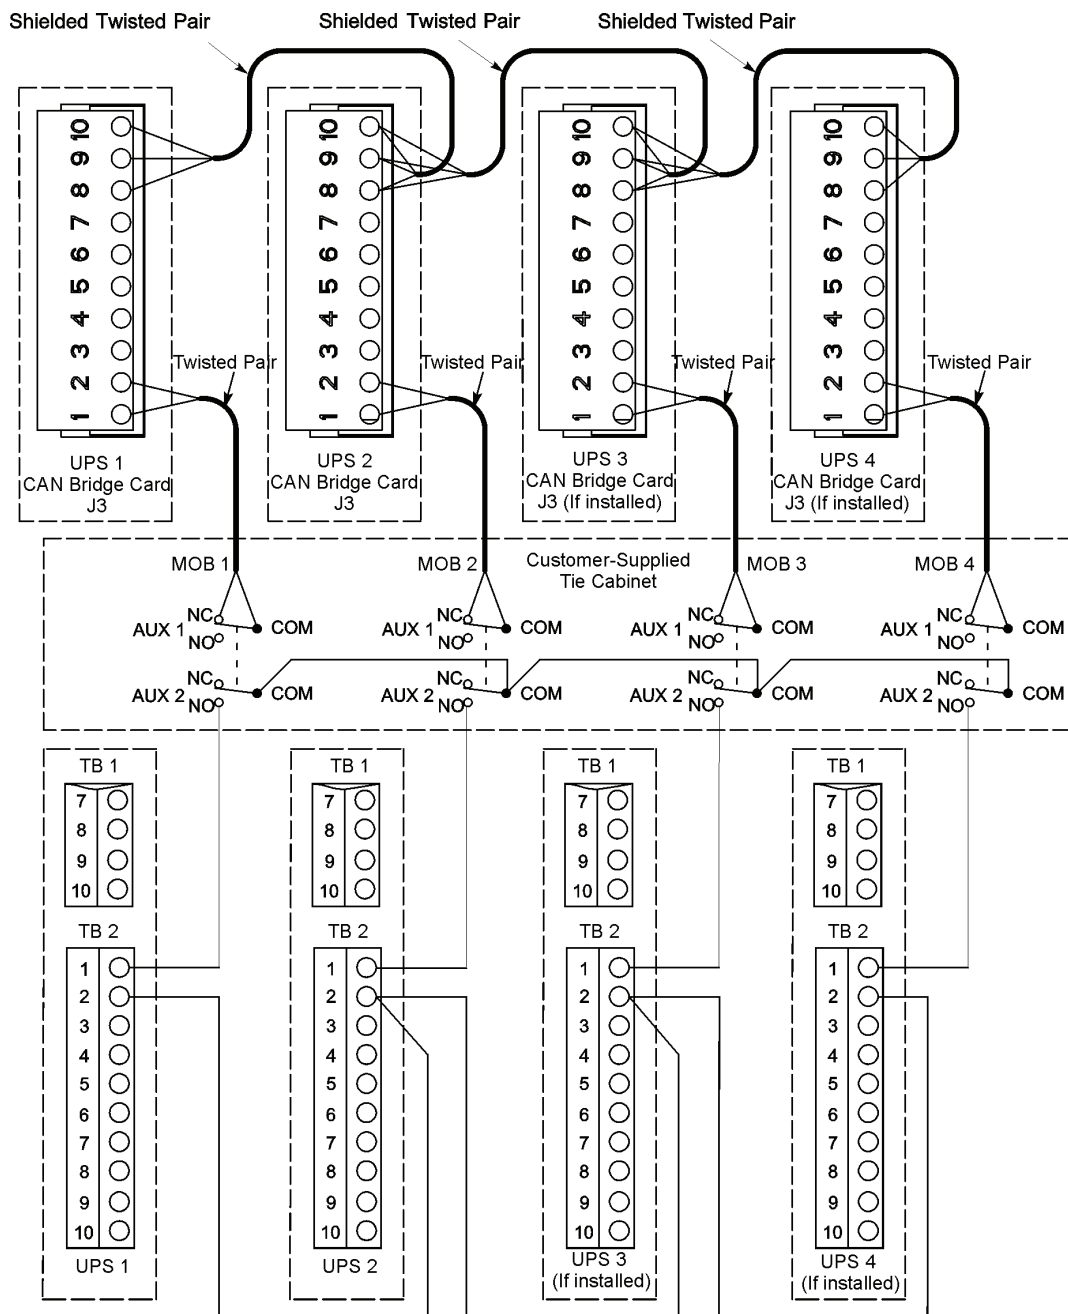

Figure 5-6. Distributed bypass Pull-Chain wiring with MOB
11. Route and install distributed bypass system pull-chain wiring between the UPS cabinets and tie cabinet MOBs. See Figure 5-6 on page 51 and Table 5-4 on page 52 for wiring information.